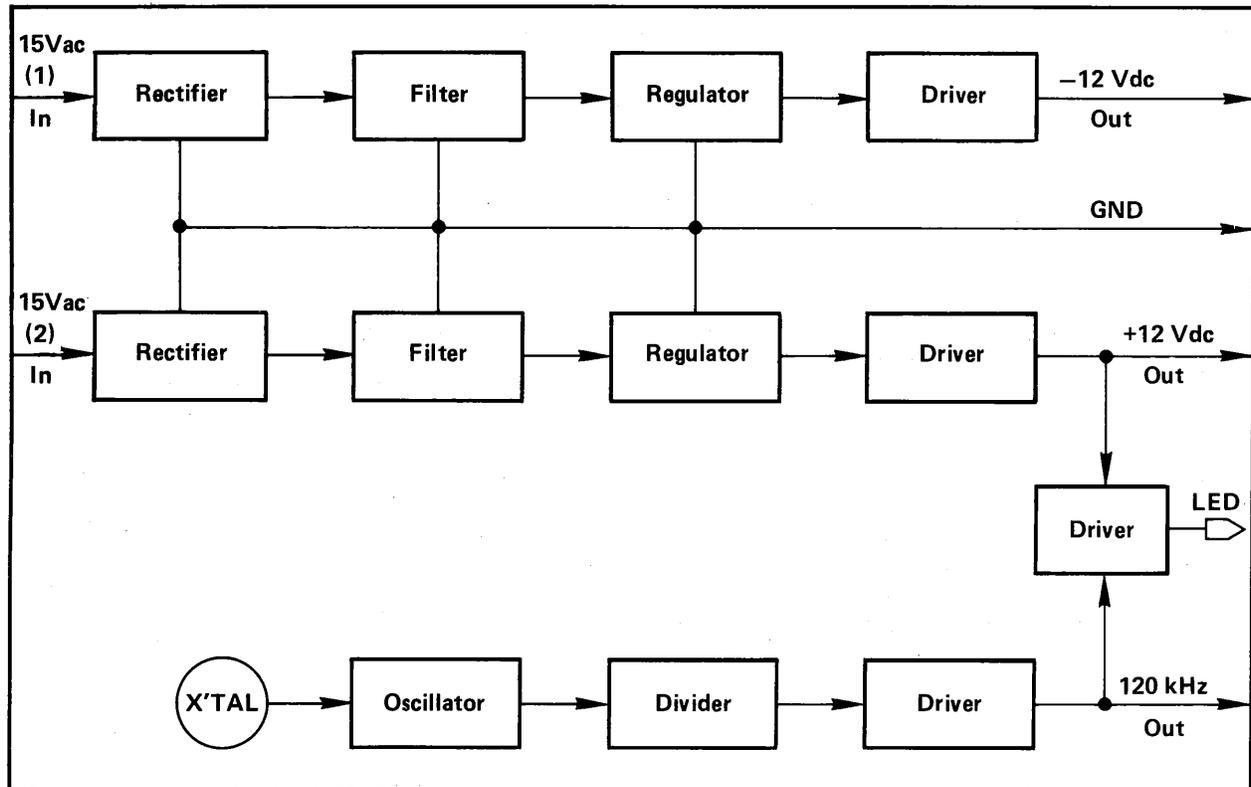

Figure 15, Power Supply Block Diagram
5.01 Figure 15 is a block diagram of the power supply board. The 15 Vac from each of the two secondary windings of the power transformer mounted on the data station rear panel is rectified and filtered. Integrated circuit regulators generate ± 12 volts regulated dc; their current drive capabilities are augmented by transistors, with short circuit current limiting resistors. The reference frequency is obtained from a crystal controlled oscillator, divided down to 120 kHz. A buffer transistor drives the power indicator LED (L1), as well as the 120 kHz buss with a resistor for short circuit protection.